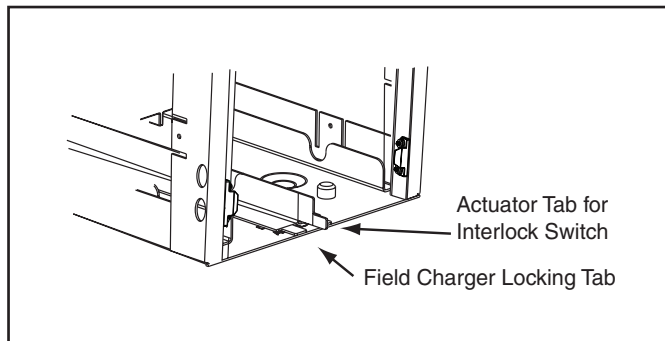

Figure 16 Locking Tab
- Reinstall the FIELD CHARGER and lock into place by bending one locking tab on the cabinet. See Figure 16.
9. Reinstall the FIELD CHARGER and lock into place by bending one locking tab on the cabinet. See Figure 16.
11. Reinstall the FIELD CHARGER and lock into place by bending one locking tab on the cabinet. See Figure 16.